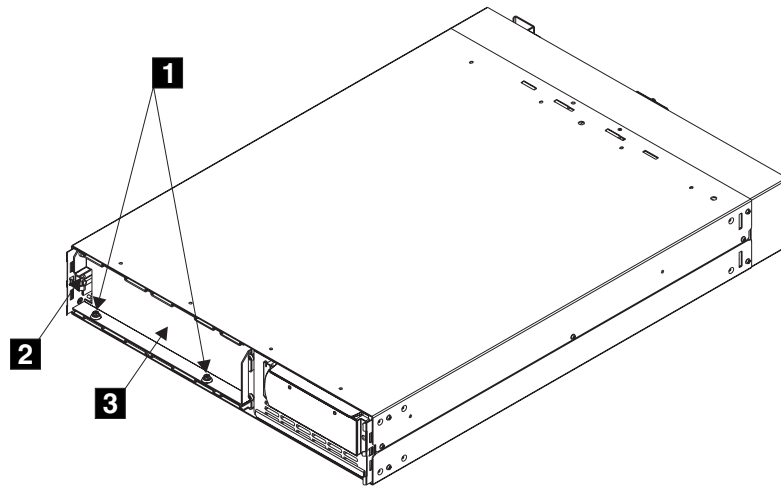

Figure 108. Fastening the battery retaining bracket
- c. Remove the two bolts **1** and additional nut **2** on the left side of the bracket, as shown in Figure 108. Next, remove the battery retaining bracket **3**.